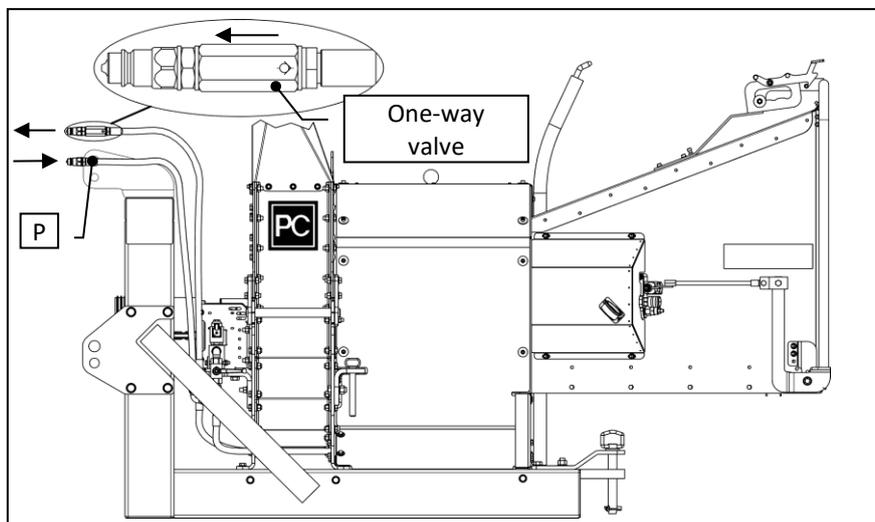

Figure 3
The chipper's two loose hydraulic hoses are inserted into the tractor's valve block. The pressure hose (P) is inserted into the tractor's pressure port, and the return hose (with one-way valve) is inserted into the tractor's return port. See Figure 3.